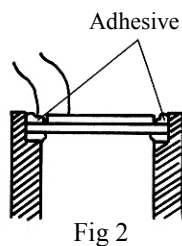

Fig 2
- 2 Put the diaphragm in so that the lead wires from the buzzer element come to the direction of the cutting of the place to be attached. Press lightly to prevent it from rising. The ideal method is that the adhesive overflows and falls onto the diaphragm as shown in Fig 2.